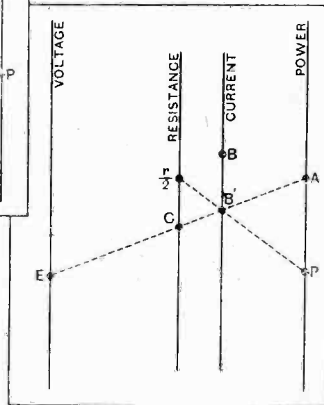

Fig. 5.—(Right) Method of using the chart when B lies above AC. An auxiliary point B' is found, which in turn is used to determine P.
*Case (2).*—If B lies above AC, let B' be the point in which AC meets the current axis. Then E is in alignment with A and C, while P is in alignment with  $\frac{r}{2}$  and B' (see Fig. 5).
$R_a=2,000$  ohms. Suppose it required to find the approximate a.c. power which could be delivered by this bank to a load of 500 ohms, and further to ascertain the H.T. supply necessary. From equations (1) above, the following values are easily obtained:  $A=25$  watts;  $B=250$  mA.;  $C=650$  ohms. An inspection of the Chart shows that B lies above AC; hence *Case (2)* applies. Using the diagram as in Fig. 5 we find the necessary H.T. to be 255 volts, the a.c. power in the load being 9.7 watts. The necessary grid bias with which to operate will, of course, be read from the valve characteristics as usual.